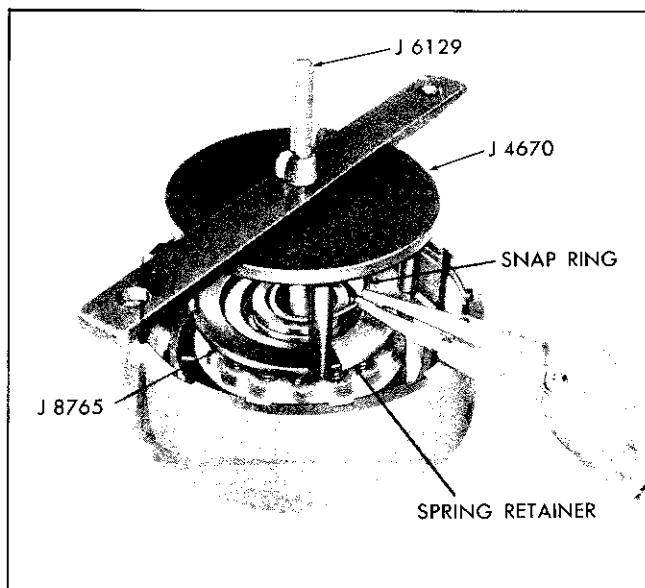

Fig. 7E-81 Removing Forward Clutch Spring Retainer Snap Ring
5. If necessary, place forward clutch and turbine shaft in arbor press and remove turbine shaft (Fig. 7E-80).